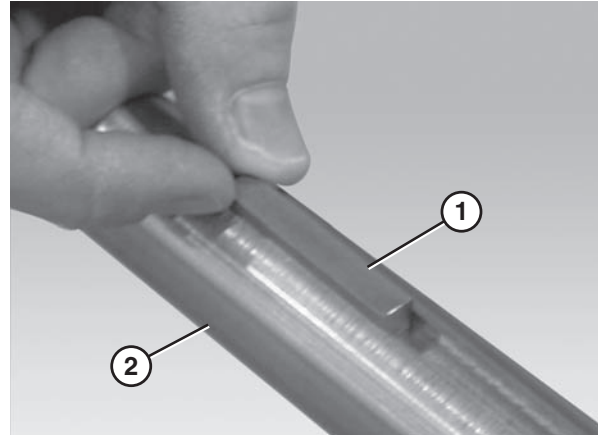

**Figure 38**
6. Detach the motor (Figure 38, item 1) from the gear reducer (Figure 38, item 2).